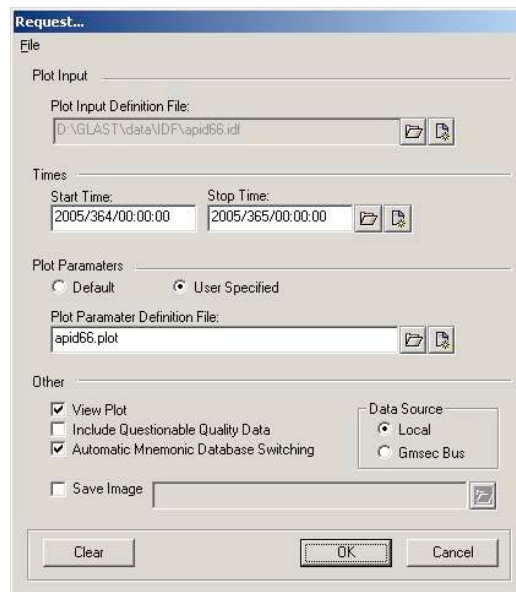

Figure 8: Plot Request Specification Screen
- Click the “Add” button to activate the plot “Request...” specification screen (see Figure 8).
NOTE: Missions that store telemetry by ground-receipt time (in addition to the standard spacecraft time) can choose to generate plots using ground-receipt time by checking the “Use G/R Time” box (see Figure 8). Missions without this capability will not have this option available on the request specification screen.
- Via the “Request Plots” process (Section 3.1): Check the ‘View Plots’ selection box on the “Requests...” screen (see Figure 8), (“Plots” | “Request Plots” | “Add”). Interactive Plots will automatically be activated with the requested plot once the request is completed.